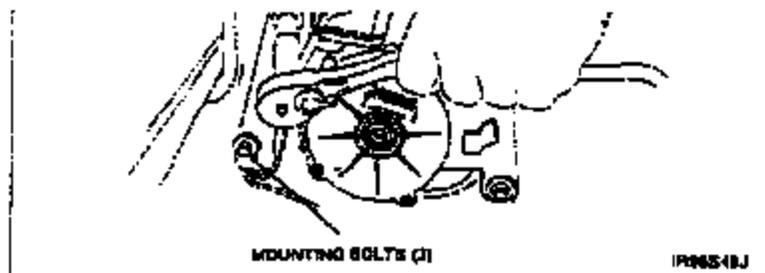

Figure 6
11. Remove the three (3) motor mounting bolts. See Figure 6.